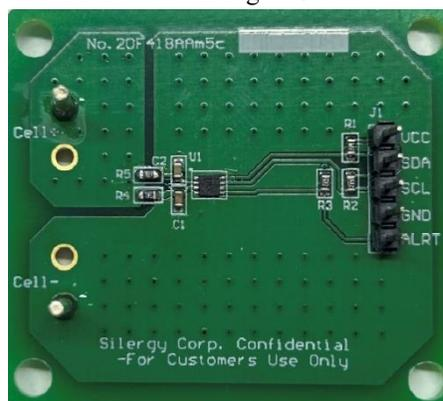

Figure 3 SY24561 Demo Board Top View
- a. The top view of SY24561 demo board is shown in Figure 3: